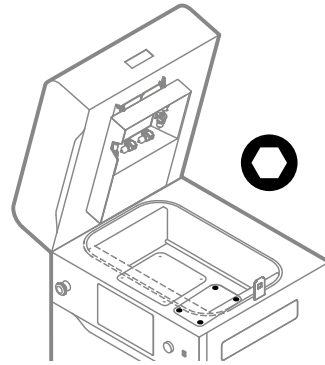

Fig. 13.37 Tighten the screws on the Print Bed cover.
23. Using a 2.5 [mm] allen key, tighten the four screws securing the Print Bed cover (fig. 13.37).